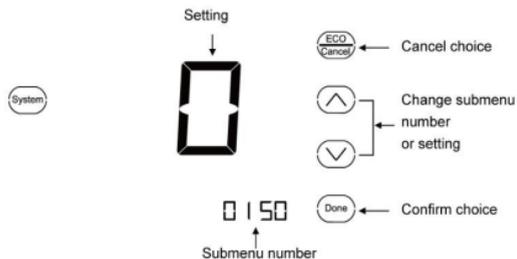

Fig.19-3.
2. Press \wedge or \vee key to cutover submenu, and press $\text{\textcircled{System}}$ key enter submenu. Under submenu Use \wedge or \vee to set parameters. See Fig.19-3.